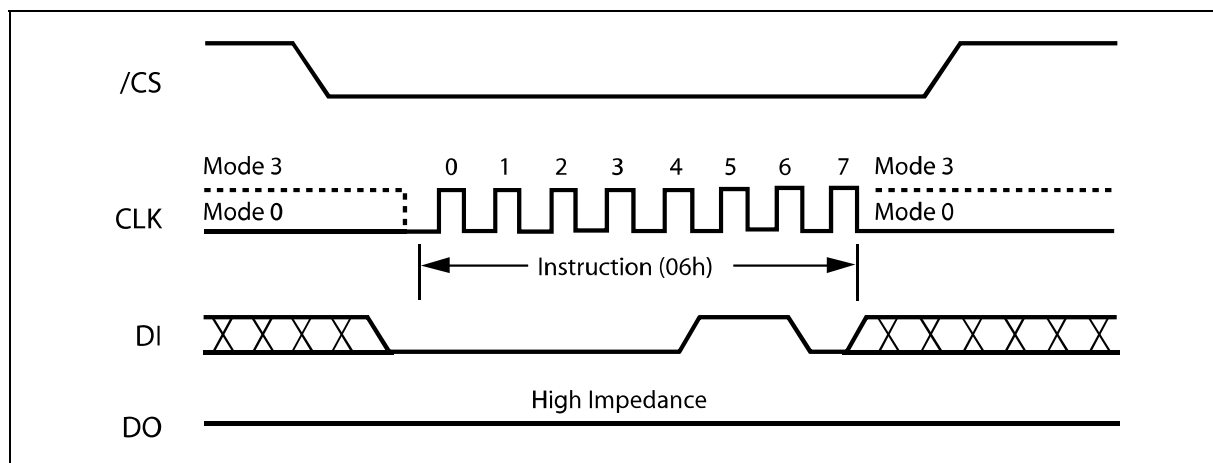

Figure 4. Write Enable Instruction Sequence Diagram
The Write Enable instruction (Figure 4) sets the Write Enable Latch (WEL) bit in the Status Register to a 1. The WEL bit must be set prior to every Page Program, Quad Page Program, Sector Erase, Block Erase, Chip Erase, Write Status Register and Erase/Program Security Registers instruction. The Write Enable instruction is entered by driving /CS low, shifting the instruction code "06h" into the Data Input (DI) pin on the rising edge of CLK, and then driving /CS high.